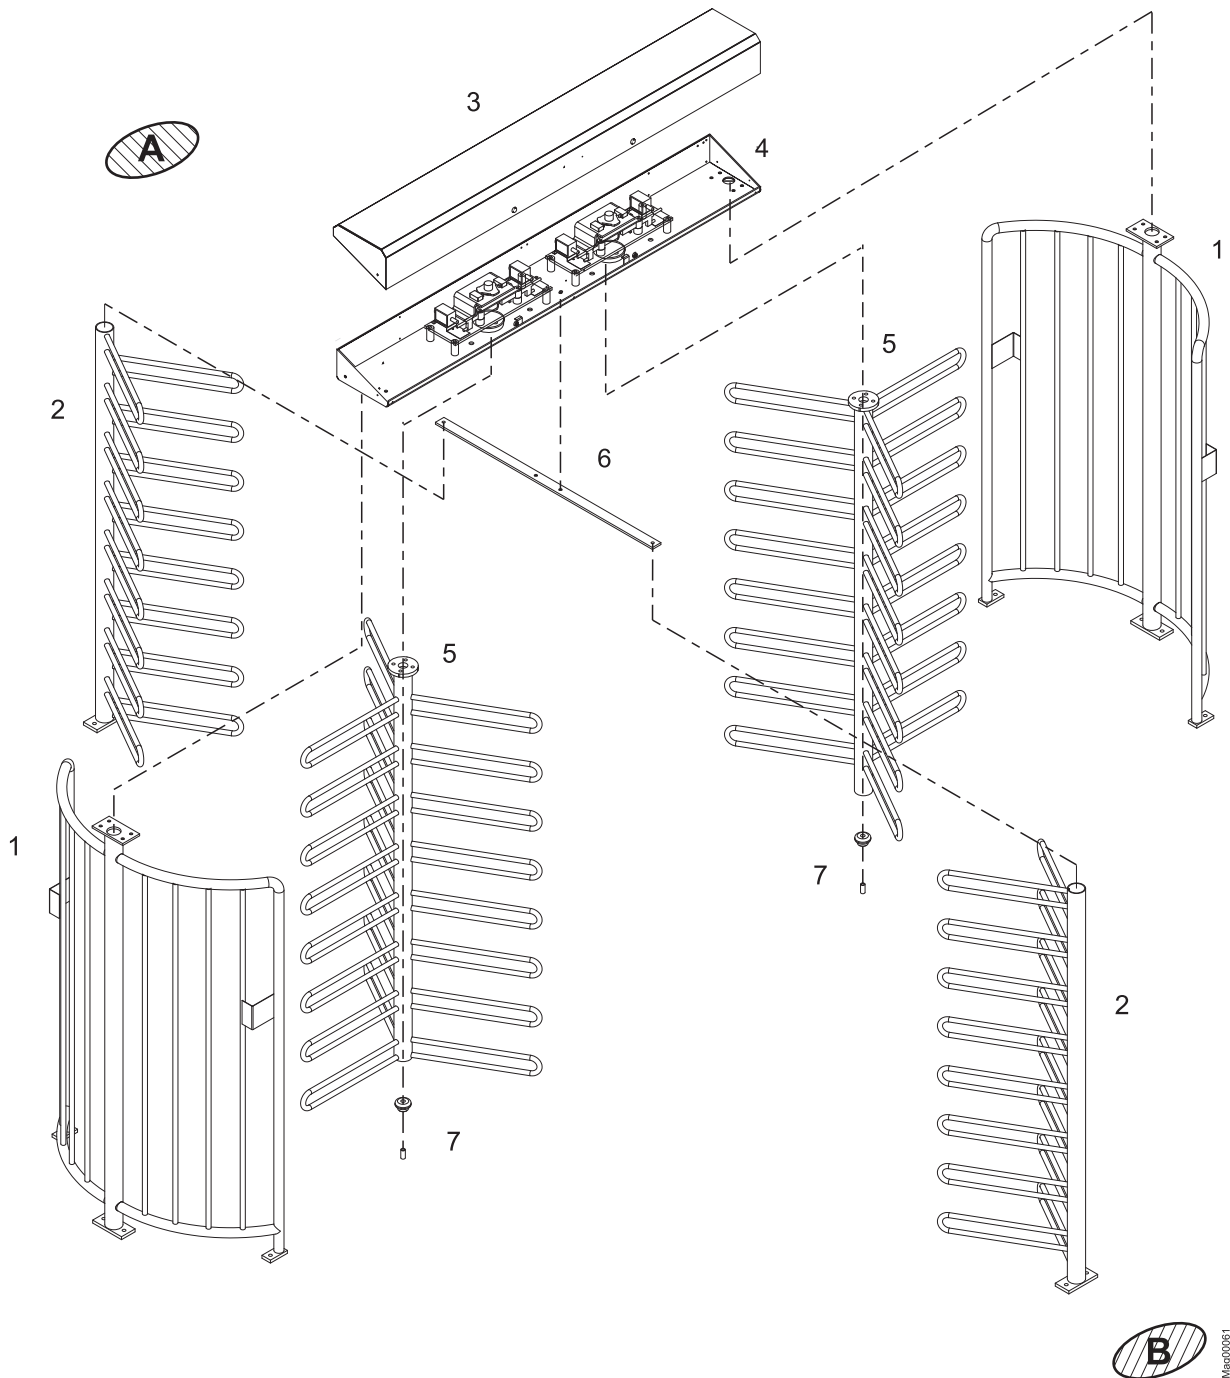

Fig. 5: Assemble full height turnstile
Mount the support beam so that the cover is accessible from inside, from the secured area. See Fig. 5.
4. Pull the power cable and any control cables completely through the tube of the guide comb (Fig. 5, Pos. 1) and/or the cage halves half (Pos. 2).
6. Mount the cage halves (Fig. 5, Pos. 1) and guide comb lock (Pos. 2) and fasten using the M 10 screws.
4. Mount the connecting rod (Fig. 5, Pos. 6) on support beam (Pos. 4) using screws M12 x 35 and locknuts.
5. Use a hoist to position support beam/connecting rod (Fig. 5, Pos. 4 and 6) onto the guide combs and cage halves. Mount the support beam so that the cover is accessible from inside, from the secured area.
8. Mount guide combs (Fig. 5, Pos. 2) onto the connecting rod (Pos. 5) using screw M12 x 40.